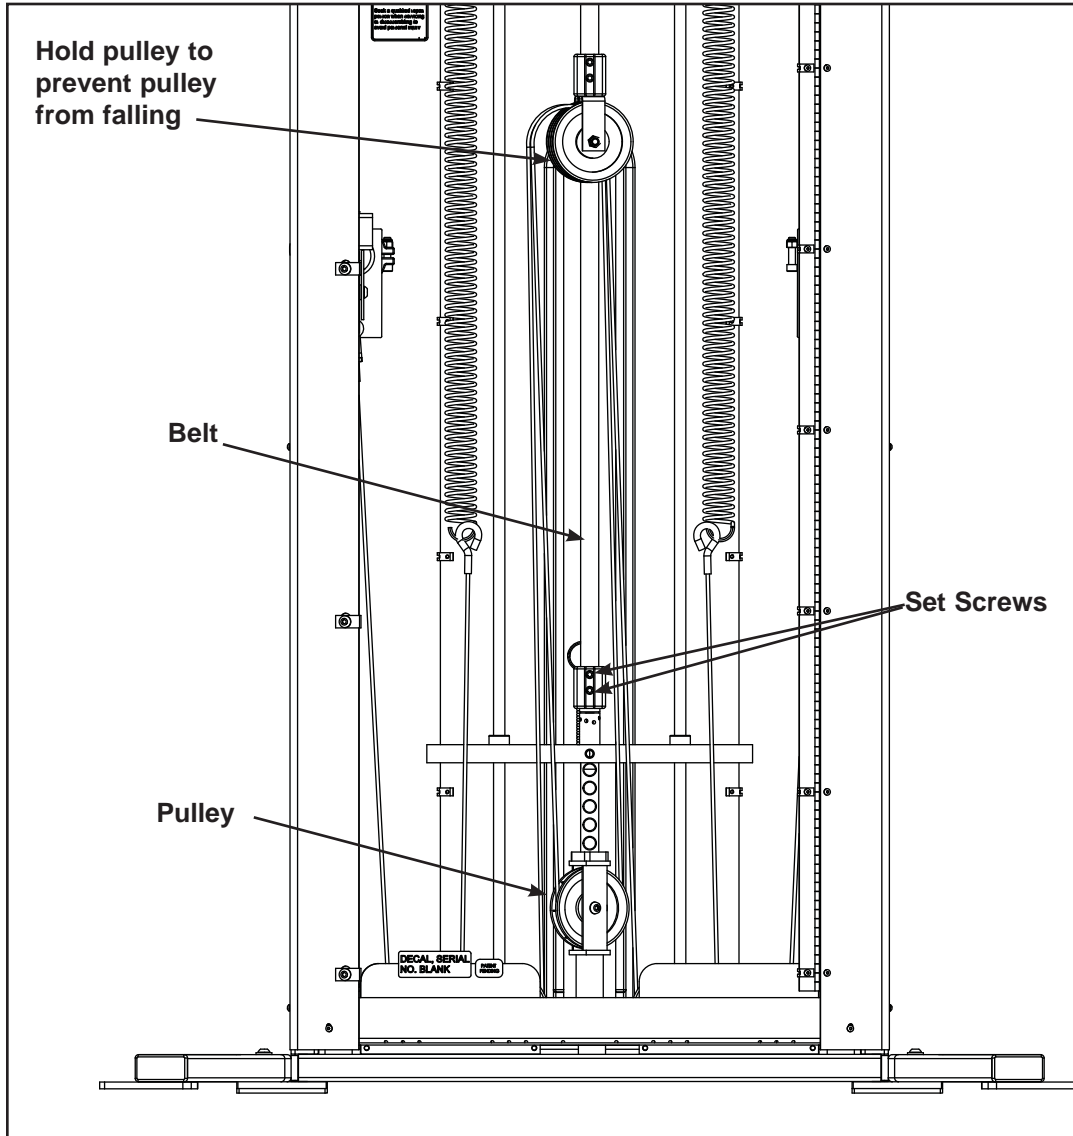

Figure 4
3. Removing belt (refer to steps 3A - 3C and Figure 4).
A. Have an assistant hold the top pulley shown in Figure 4.